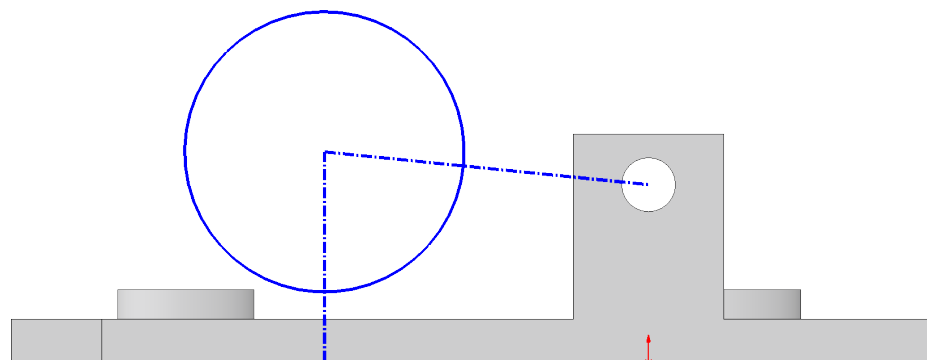

Fig. 50
Step 7. Sketch **circle at top endpoint of vertical centerline**, **Fig. 50**.